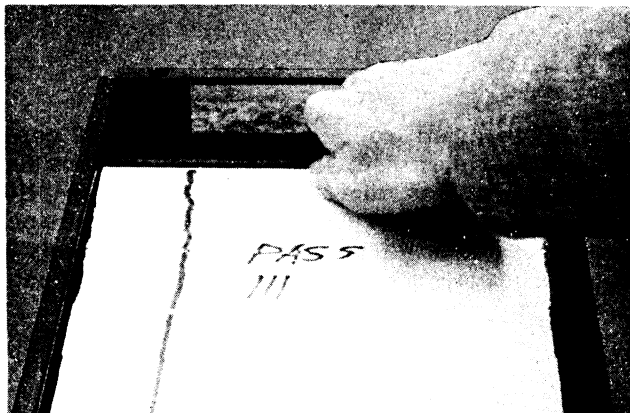

Figure 16. Blocking Cards in Storage Tray
6. Block the cards as soon as practical, to keep them from warping or curling. (See Figure 16.)